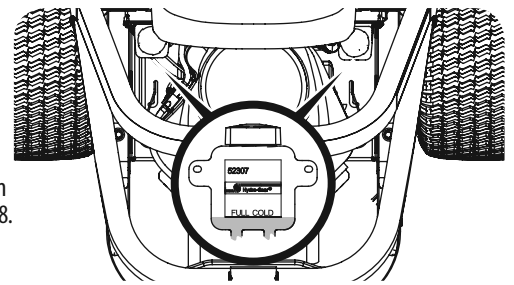

Figure 38
1. Clean the reservoir cap and the area around the cap to prevent debris from contaminating the transmission oil. See Figure 38.
2. Turn the reservoir cap counter-clockwise to remove, then check the oil level in the reservoir. Oil should be visible at the bottom of the cup, but the oil level must NOT be above the "FULL COLD" line. See Figure 38. DO NOT FILL THE RESERVOIR.
1. Remove the cap from the transmission oil expansion reservoir. See Figure 38.